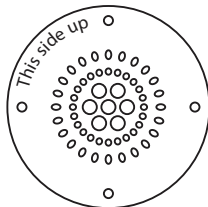

Figure 1: Water Lily - An eye-catching combination spray. Item #2A
4. The unit ships with one spray nozzle attached. To change to one of the other 2 nozzles, remove the 4 screws from the nozzle then replace with desired nozzle. Refer to Figures 1, 2 & 3 for spray pattern appearance. Nozzles are marked "This side up." Make sure the o-ring is seated in groove before installing nozzle. Tighten screws until seated, approximately 10 to 12 in-lbs.